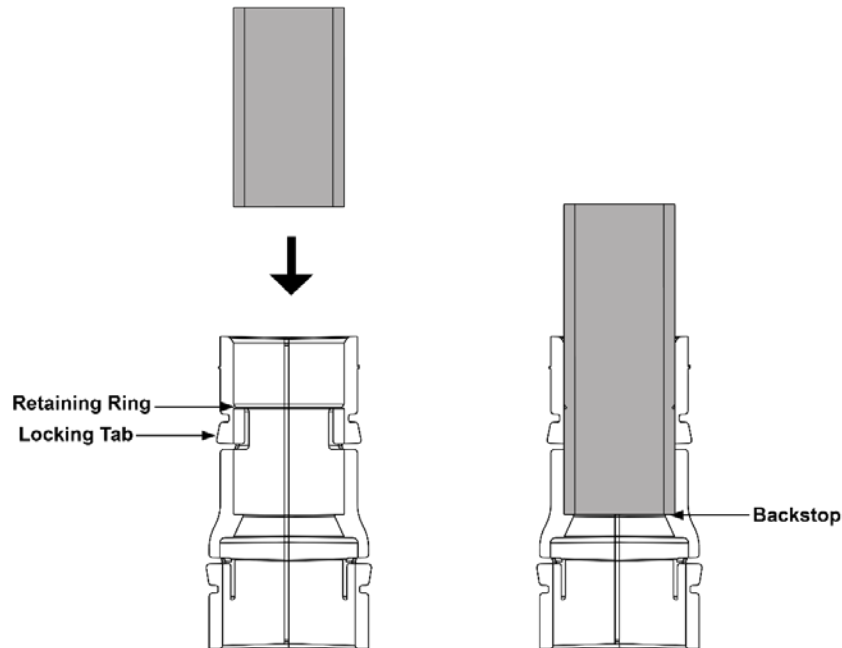

Figure 14: Securing hose pieces into adapter
4. Orient the sensor so that the flow arrows point away from the manifold. Place the upper adapter on the final run hose piece, making sure that the hose is pushed into the adapter past the retaining ring and locking tabs until it hits the backstop (about 2 inches), as shown in Figure 14. Make sure that you install the sensor so that the auditory tube is pointing up. Secure using a hose clamp.